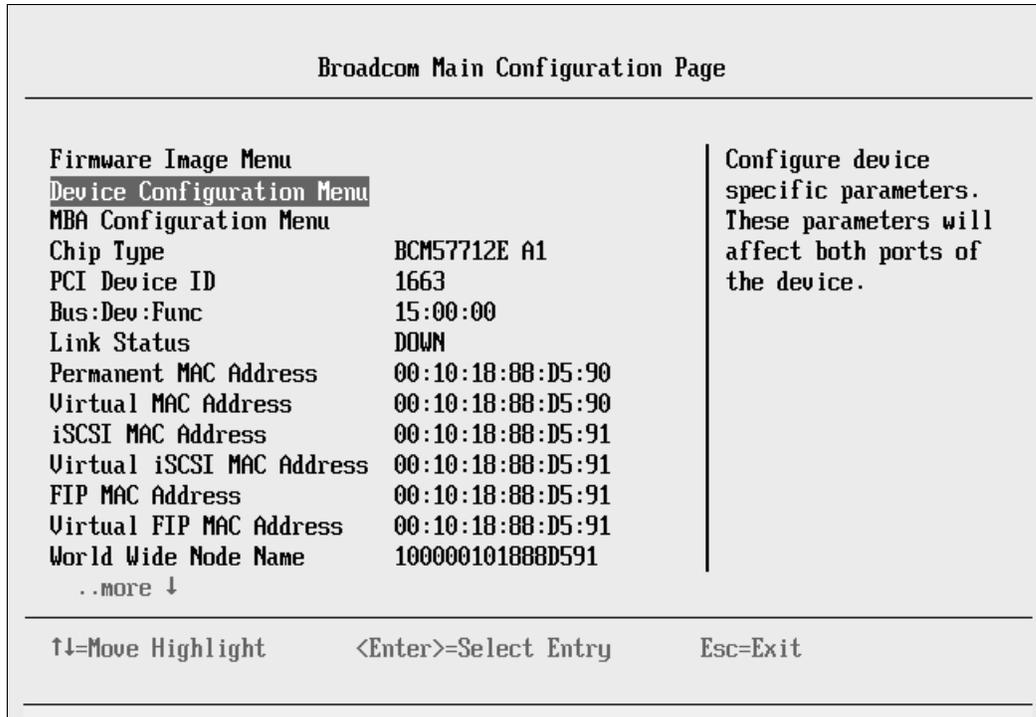

Figure 9-5 Broadcom Main Configuration Page panel
7. In the Broadcom Main Configuration Page panel (Figure 9-5), select **Device Configuration Menu** to enable the NIC partition.